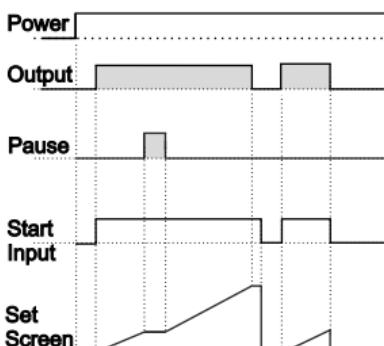

Figure 3.3
3.2.1 If Upcount **dEct** =0 and **outF** is **0-n** the control diagram is shown in Figure 3.3